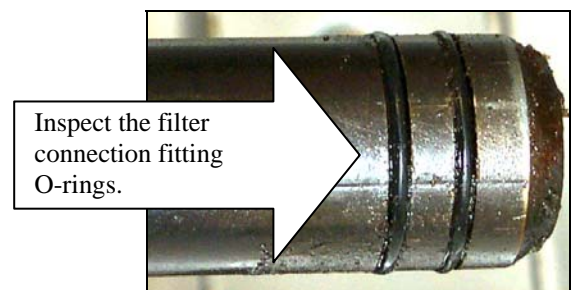

Figure 7
3. Inspect the filter pan connection fitting to ensure that both O-rings are present and in good condition. (See Figure 7)